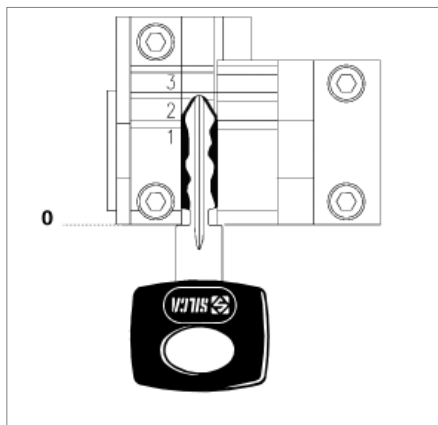

Fig. 26
- 0: for keys with back stop (towards head - Fig. 26).